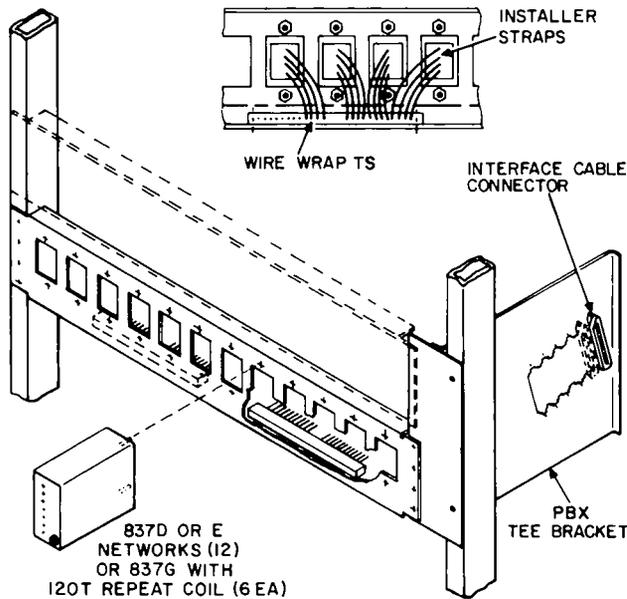
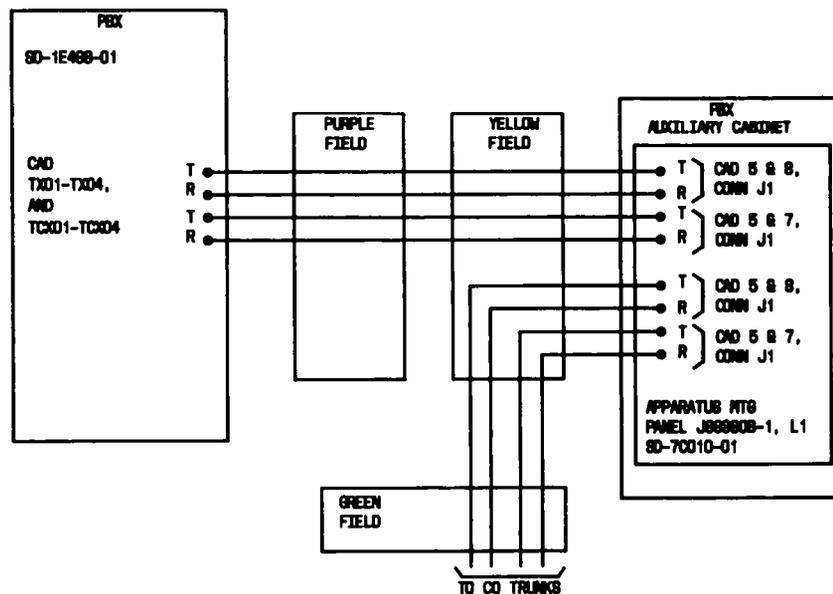

Fig. 24—Shelf and Assembly for 837-Type Networks (J99380B)
Fig. 25—Network Mounting Panel to DIMENSION PRELUDE PBX—Interconnection (J99380B)
6.30 The terminal balancing network panel (J99380B) is shown on Fig. 24. Interconnection information for the terminal balancing network panel (J99380B) and DIMENSION PBX is shown in Fig. 25.